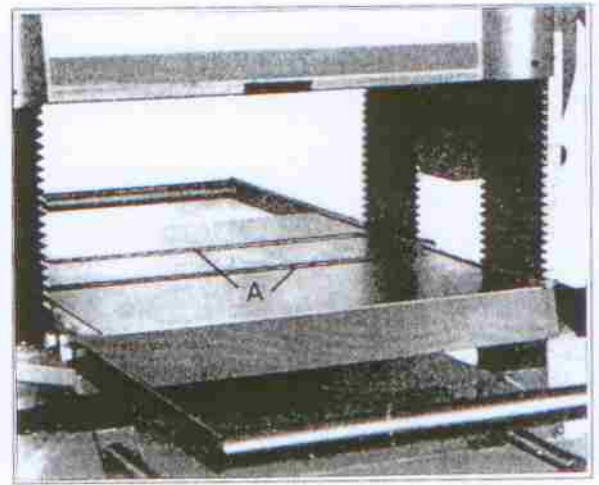

Fig.13
Your planer is supplied with two table rollers(A) Fig. 13,which aid in feeding the stock by reducing friction and turn as the stock is fed through the planer.It is not possible to give exact dimensions on the proper height setting of the table rollers because each type of wood behaves differently.